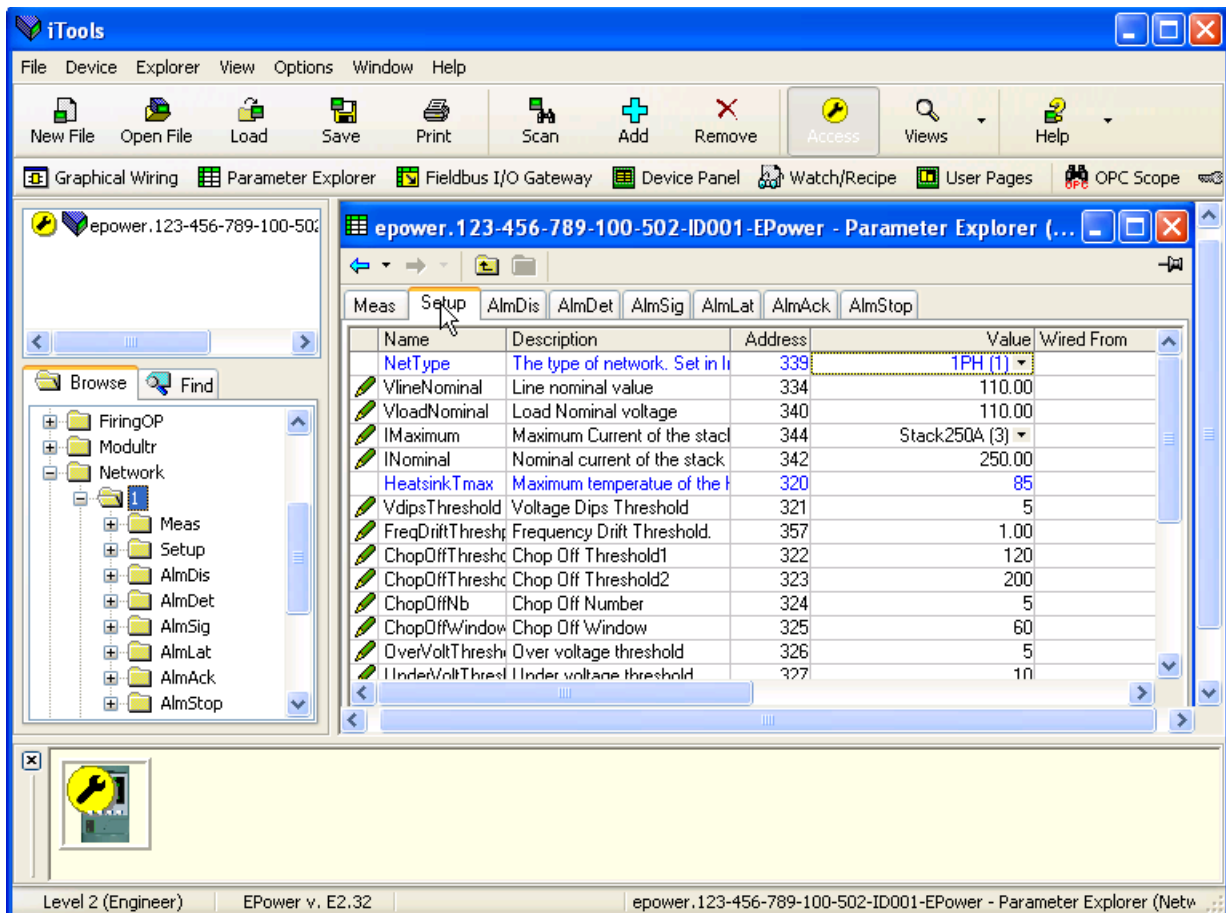
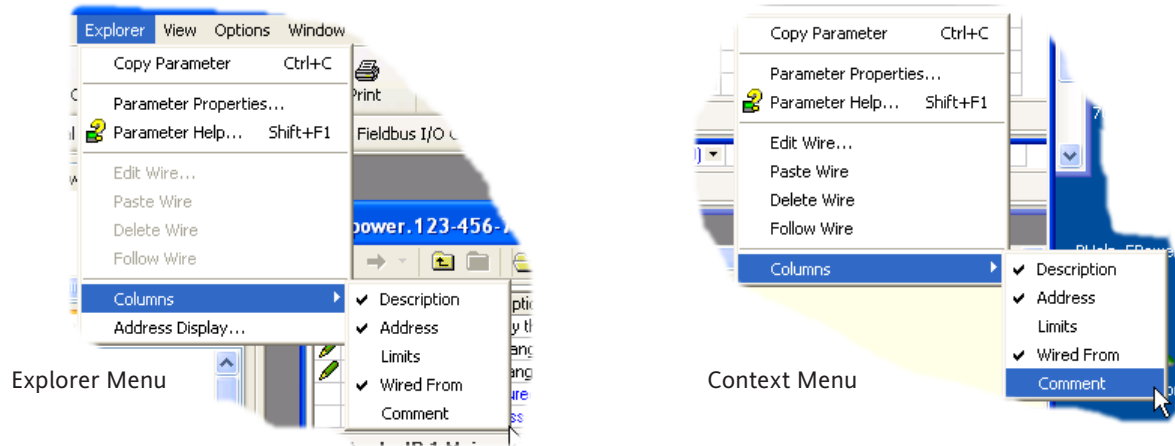

Figure 7.4a Parameter table example
Figure 7.4b Column enable/disable
In each case the function block parameters appear in the iTools window in tabular form, such as the example in figure 7.4a, below.
The figure above shows the default table layout. Columns can be added/deleted from the view using the 'Columns' item of the Explorer or context menus (figure 7.4b).
- Parameters in blue are non-editable (Read only). In the example above all the parameters are read only. Read/write parameters are in black and have a 'pencil' symbol in the 'read/Write access column' at the left edge of the table. A number of such items are shown in figure 7.4a, above.
- Columns. The default explorer window (figure 7.4a) contains the columns 'Name', 'Description', 'Address', 'Value', and 'Wired From'. As can be seen from figure 7.4b, the columns to be displayed can be selected, to a certain extent, using either the 'Explorer' menu or the context menu. 'Limits' have been enabled for the example above.
Allows the user to enable/disable a number of parameter table columns (figure 7.4b).